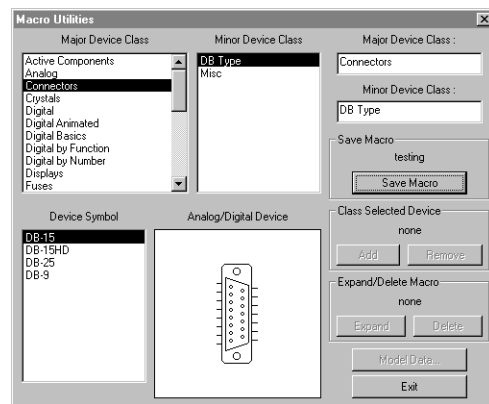

Figure 17.6. You must specify the Major and Minor Device Classes under which your macro will be shown in the Device Selection dialog box.
- 20 If you are satisfied with your macro, choose **Macros > Macro Utilities** to display the Macro Utilities dialog box as pictured in Figure 17.6.